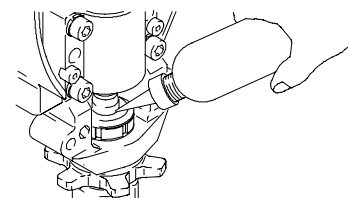

Fig. 17 7677B
4. Fig. 17. Fill packing nut with Graco TSL, through one of the slits, until fluid flows onto the top of seal.